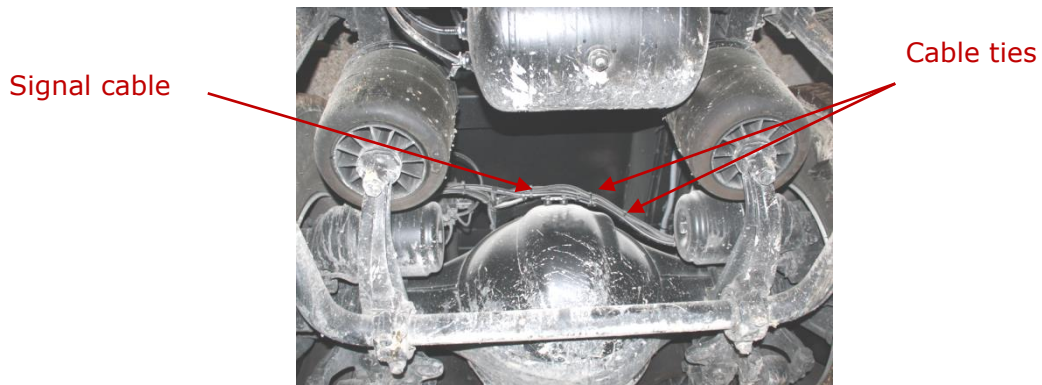

Figure 31 — Laying GNOM signal cable
- 4)** It is **strongly recommended** to lay GNOM signal cable together with standard electrical Vehicle wiring with mandatory cable ties fixing of every 50 cm (see figure 31).